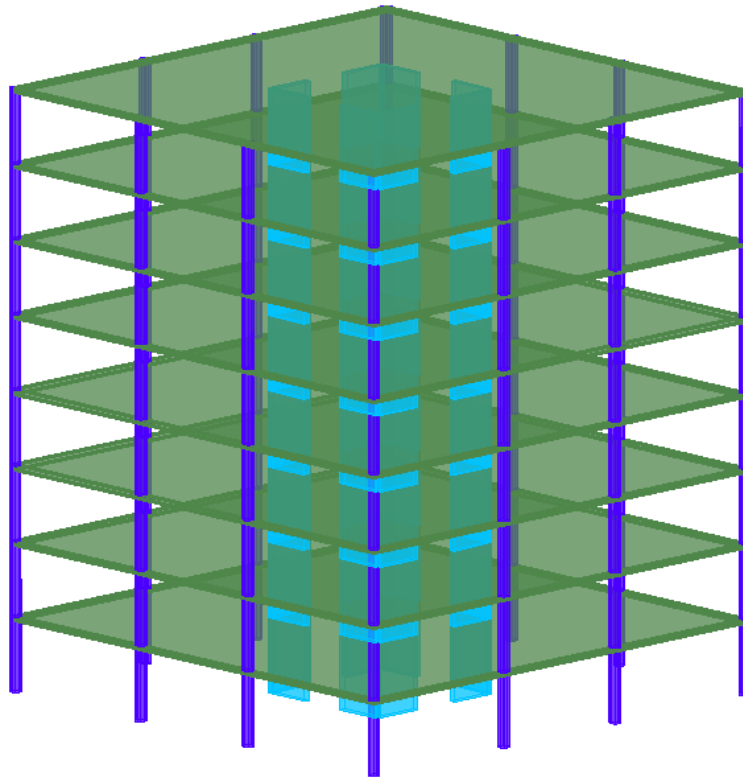

Figure 17 Imported Multistory Structure Shown in 3D Isometric Wireframe View in ADAPT-Edge
- Click on the *Top-Front-Right-View*  from *Visibility* → *Camera/Zoom* and you will see an isometric view of the imported structure in **ADAPT-Edge** (**FIGURE 17**).